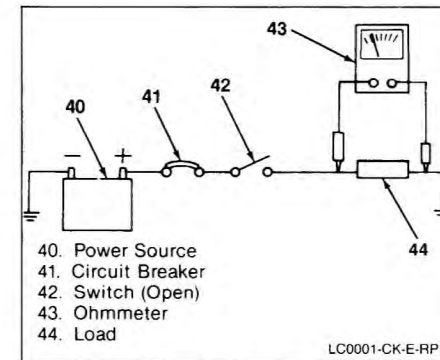

Figure 8—Ohmmeter
### Ohmmeter (Figures 8 and 10)
**CAUTION:** Like a self-powered test lamp, the ohmmeter can only be used on circuits where power has been removed (Figure 8). It is designed to be operated on its own power supply. This power supply provides low voltage and current levels for the meter to make resistance measurements. The 12-volt electrical system power in the automotive circuits could damage the meter.